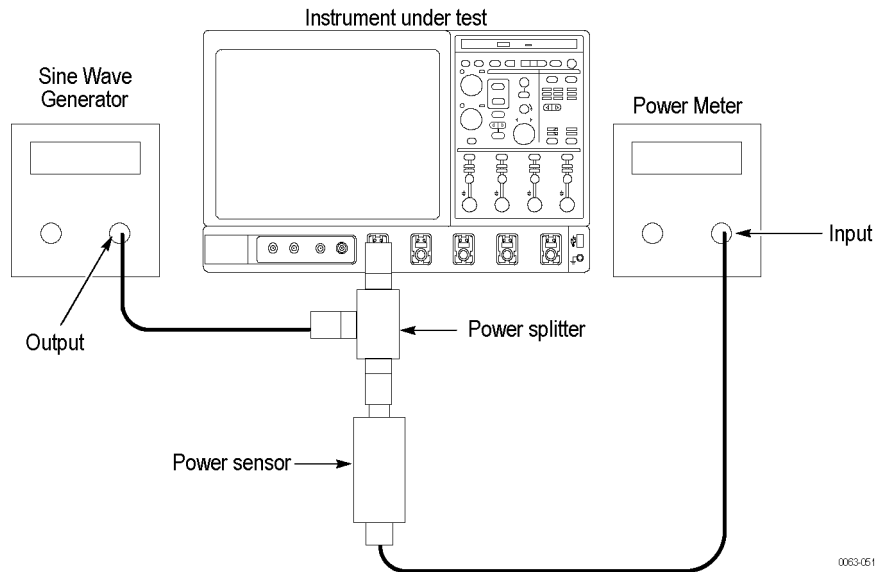

Figure 20: Analog bandwidth test hookup, < 3.5 GHz models
- c. *Hook up the test-signal source:* Connect the sine wave output of a sine wave generator to **Ch 1** through a power splitter. Connect the power sensor of the power meter to the power splitter. (See Figure 20: Analog